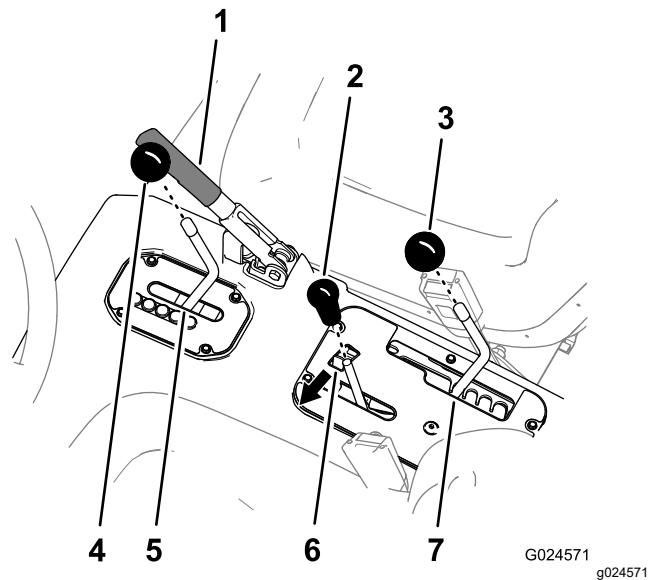

Figure 4
1. Remove all the knobs from the console levers and from the transmission lever by rotating the knobs counterclockwise (Figure 4).